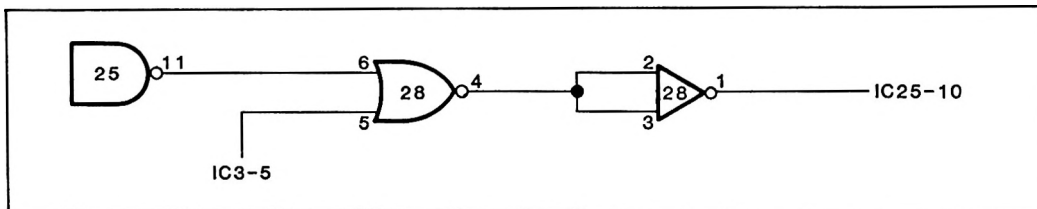

Figure 3
5. Add the following jumpers (Figure 3):